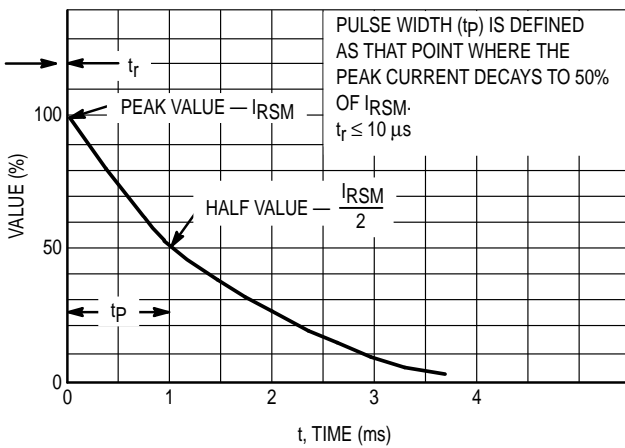
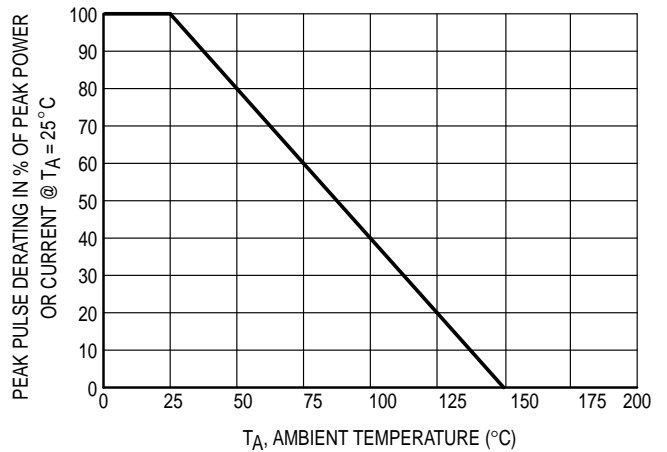

Figure 7. Pulse Waveform
Figure 8. Pulse Derating Curve
- Peak Power — 24 Watts @ 1.0 ms (Unidirectional), per Figure 7 Waveform
1. Non-repetitive current pulse per Figure 7 and derate above $T_A = 25^\circ\text{C}$ per Figure 8.
For any given circuit board, there will be a group of control settings that will give the desired heat pattern. The operator must set temperatures for several heating zones and a figure for belt speed. Taken together, these control settings make up a heating “profile” for that particular circuit board. On machines controlled by a computer, the computer remembers these profiles from one operating session to the next. Figure 8 shows a typical heating profile for use when soldering a surface mount device to a printed circuit board. This profile will vary among soldering systems, but it is a good starting point. Factors that can affect the profile include the type of soldering system in use, density and types of components on the board, type of solder used, and the type of board or substrate material being used. This profile shows temperature versus time. The line on the graph shows the